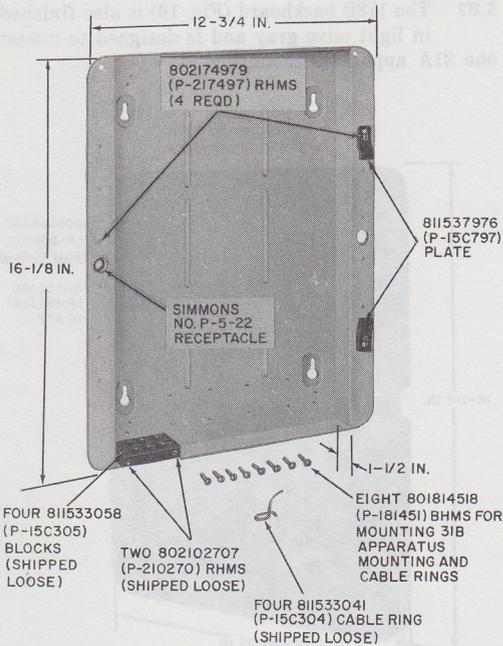
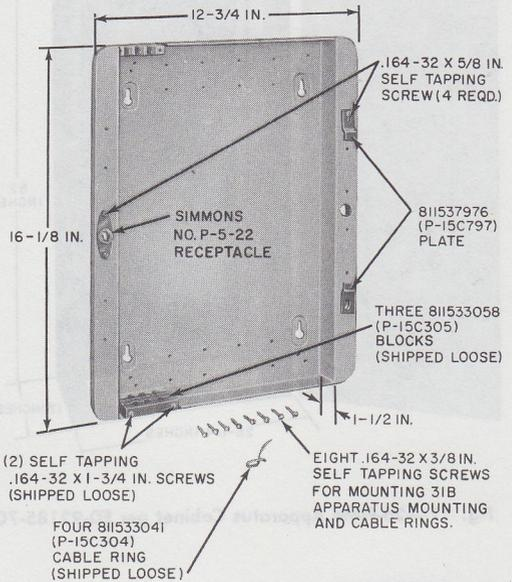

Fig. 20—177A Aluminum Backboard Assembly (MD)
Fig. 21—177A Fiberglass Backboard Assembly
5.03 The 177A die-cast aluminum (Fig. 20) backboard has been replaced by a fiberglass (Fig. 21) backboard. The fiberglass type requires self-tapping screws for attachment. The 177A backboard is designed for use with the 31B apparatus mounting. A shallow dish-shaped recess provides space for mounting 66-type connecting block. The 811537976 (P-15C797) plates, drilled and tapped to permit right or left hinging of 31B apparatus mounting, may be mounted on either side to hold the gate in an open position. To adapt the 177A backboard for use with the 31A apparatus mounting, use the D-179862 kit assembly. It consists of a 177A backboard, two metal details, and two 66B1-25 connecting blocks.